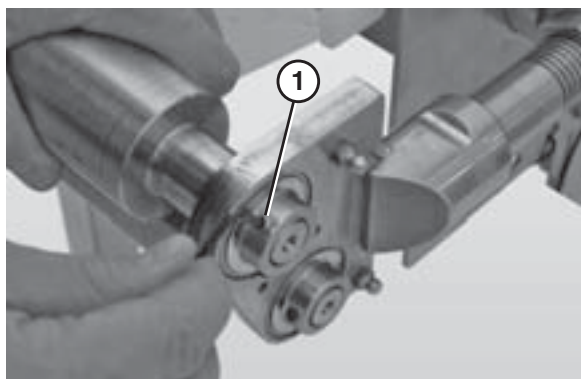

Figure 89
5. Use a 4 mm hex wrench to loosen all the bearing fasteners (Figure 89, item 1).